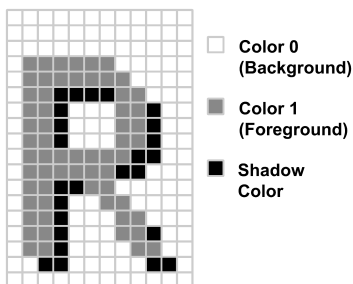

Figure 23. Shadowing
3. **Shadowing**—Shadowing can be added to two-color characters by choosing the appropriate attribute value for the character. When a character is shadowed, a shadow pixel is added to the lower right edges of the color 1 image, as shown in Figure 23. The color of the shadow is determined by the value in the color palette register EF3, which is normally set to black.